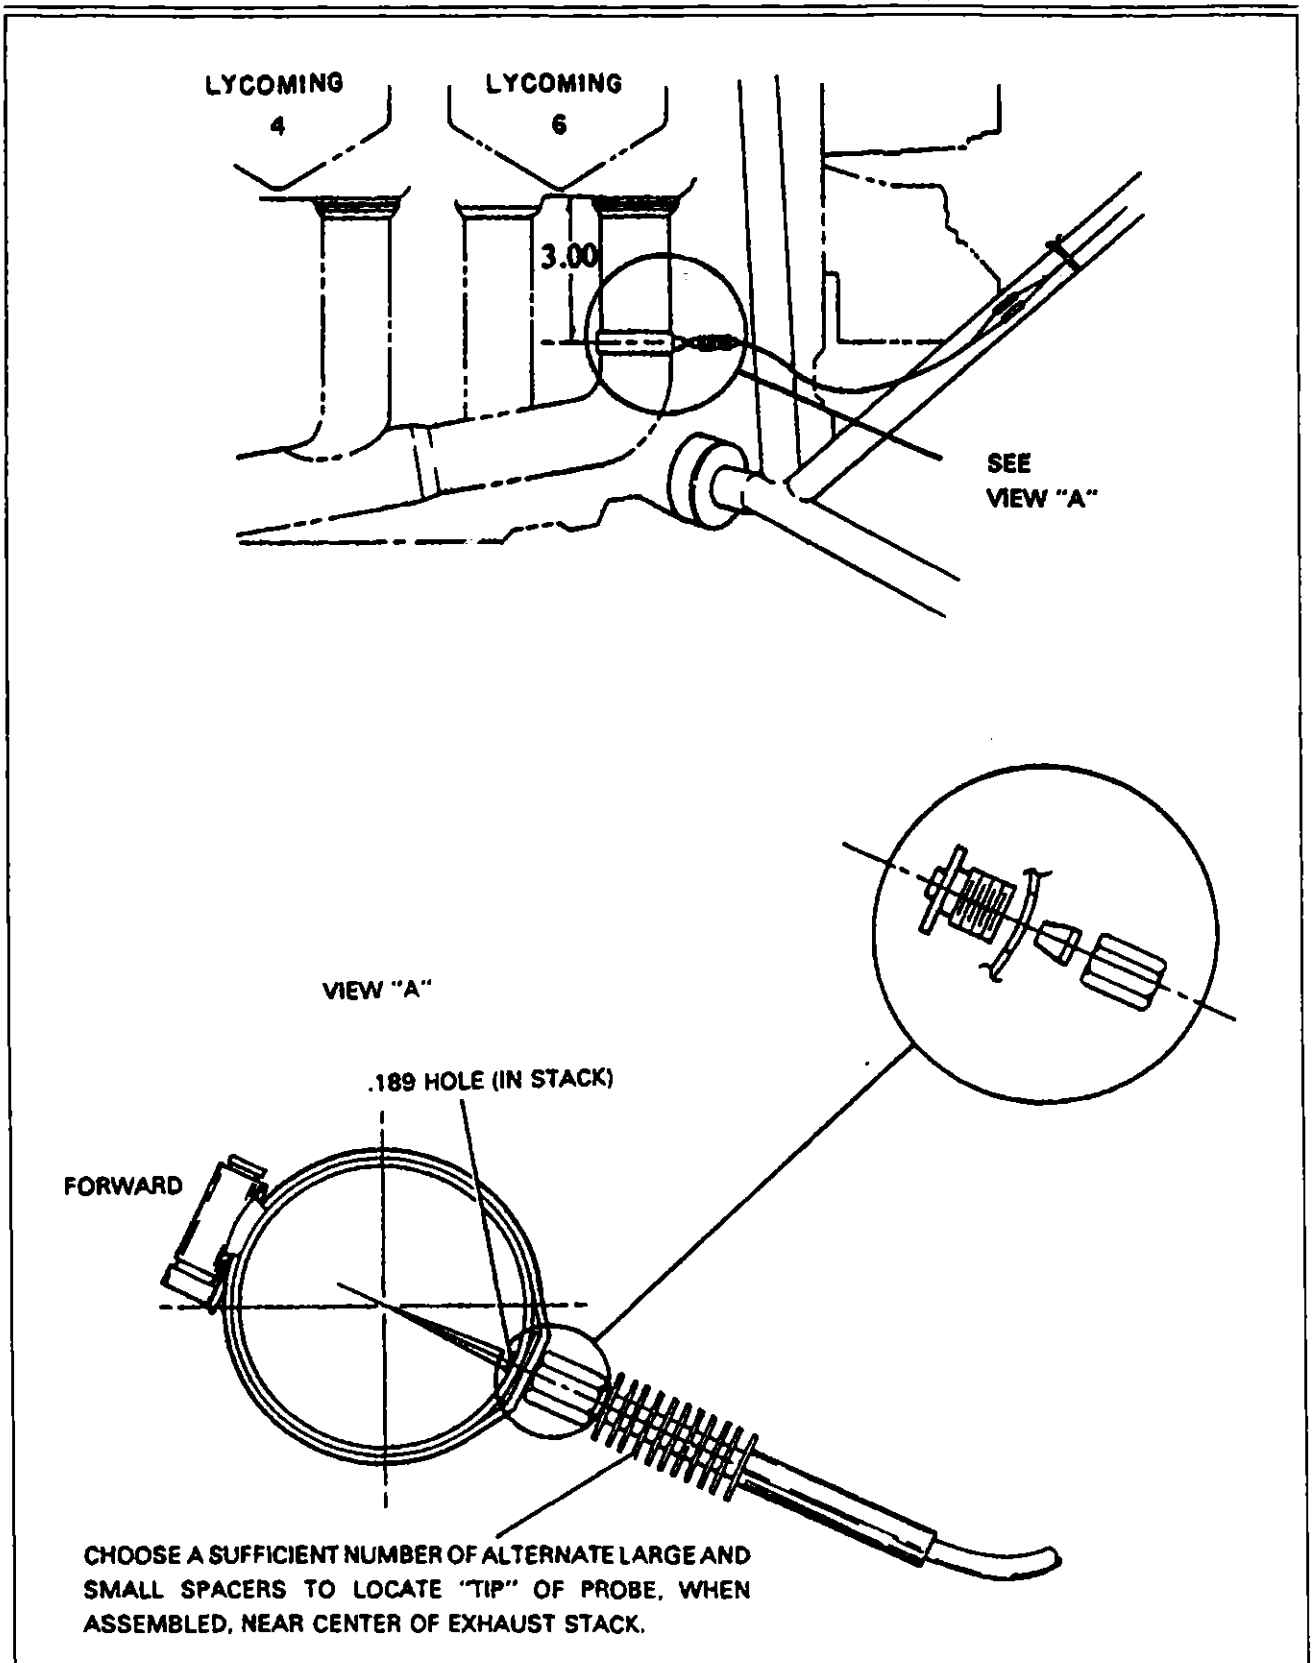

Figure 7C-5b. Indicator Probe Installation
- b. Measure to a point on the exhaust stack 3 inches from the engine exhaust port (Refer to Fig. 7C-5A).
- c. Drill a .189 inch hole located as shown in figure 7C-5A.
- d. Install indicator probe as indicated in figure 7C-5A.